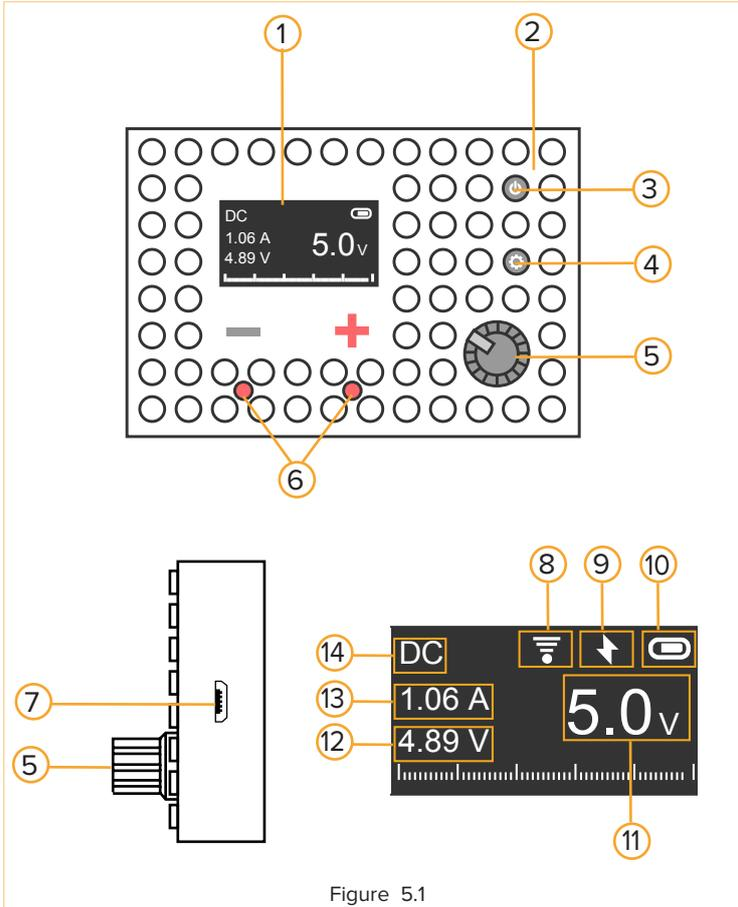
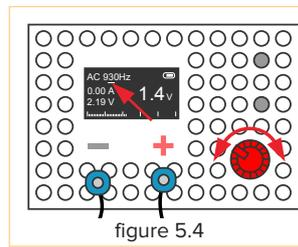

Figure 5.1
figure 5.4
- The device is switched on with the power button (**4 in Figure 5.1**). If you press this button again, the device will turn off.
- To charge the PSU, you must connect it with a micro-USB cable to any high-quality USB-compatible source with an admissible current of **0.5-2 A**. A hidden red light-emitting diode (**2 in Figure 5.1**) will light during charging. The short-term flashing of this light-emitting diode is normal. The charging time of the device is 1-2 hours, with a charger that supports a current of **2 A**.
- After the PSU has been switched on, it is in the DC mode. This is shown on the device with the DC symbol in the upper left corner of the display (**14 in Figure 5.1**).
- The voltage is set by rotating the regulator (**2 in Figure 5.1**). If no overload occurs, then the device is a voltage source.
- If the current exceeds **1 A**, the device will switch to overload mode. In overload mode, the measured voltage and current (**12 and 13 in Figure 5.1**) will flash. After the current has been reduced to 1 A, the device will return to normal mode.
- In overload mode, the voltage at the terminals will be lower than the EMF set by the regulator (**5 in Figure 5.1**). In this mode the battery is discharged noticeably faster; in particular, the device may switch off, even though there is still enough charge for operation in normal mode. The overload mode is completely safe for the device.
- To switch to AC mode, briefly press the mode button (*4 in Figure 5.1*). This mode will be shown on the device with the AC symbol in the upper left corner of the display (*14 in Figure 5.1*). If you briefly press the mode button again, the PSU will switch back to DC mode.
- After switching to the AC mode, the regulator (*4 in Figure 5.1*) will set the voltage value.
- If you press and turn the regulator to the right (*5 in Figure 5.1*), the PSU will switch to the mode of precise frequency control (*Figure 5.4*).
- By turning the regulator (*5 in Figure 5.1*) while it is pressed, you can select the number you want to change: after it is released, the regulator will change the selected number. To return to rough editing, you need to press the regulator and turn it to the left.
- If the current exceeds **0.2 A**, the device will switch to overload mode. In overload mode, the measured voltage and current (*12 and 13 in Figure 5.1*) will flash. After the current has been reduced to **0.2 A**, the device will return to normal mode.
- In overload mode, the voltage at the terminals will be lower than the EMF set by the regulator (*5 in Figure 5.1*). In this mode the battery is discharged noticeably faster; in particular, the device may switch off, even though there is still enough charge for operation in normal mode. Overload mode is completely safe for the device.
- To access the settings menu, press and hold the mode control button (*4 in Figure 5.1*) for 3 seconds.
- To move around the menu, use the regulator or briefly press the mode control button (*5 and 4 in Figure 5.1*). To select a menu item, press the regulator or press and hold the mode control button.
- In order to enter the configuration mode, you need to connect the device to the charger, turn it on with the power button (*3 in Figure 5.1*), then press the mode control button (*4 in Figure 5.1*) and hold it for 3 seconds.
- To move around the menu, use the regulator or briefly press the mode control button. (**5 and 4 in Figure 5.1**).